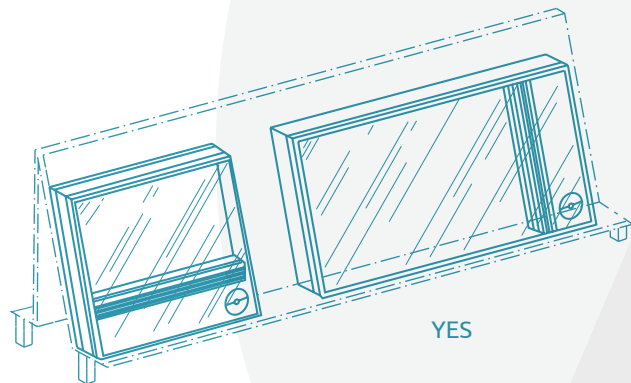

Fig. 1. Positioning of blinds during transportation
1. For transporting the insulating glass units with the blind incorporated, within the factory or on route to the site, the units must be positioned vertically, with the blind at the bottom of the unit. Only where the size of the glass panes is greater than the permitted shipment height can the unit be laid on its longest side, however in all cases the slats or the fabric must be packed (fully raised), to avoid damaging them. It is NOT ALLOWED to transport glass units with blinds at the top (Fig. 1).